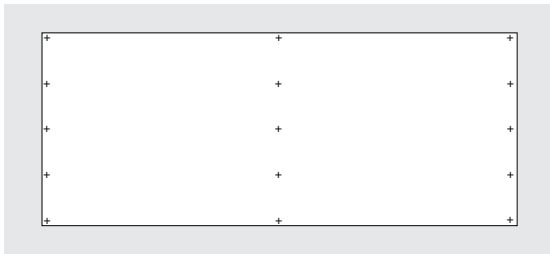

Figure 2: Fastening Pattern
3. Offset board and fasten through first layer, penetrating 1" into framing members (i.e., girts or purlins) with corrosion-resistant fasteners and poly washers. Each board should span at least three framing members. The maximum span is 5' for a 1" thick board (Contact DuPont Customer Information Group for additional thickness spannability). Fasteners should be spaced 12" on center in three rows of five fasteners per 48" board width (Figure 2).
Fasteners should be spaced 12" on center in three rows of five fasteners per 48" board width (Figure 2).
1. Offset insulation board a minimum of 6" in both directions and fasten through the first layer, penetrating 1" into framing members (i.e., girts or purlins) with corrosion-resistant fasteners and poly washers. Each board should span at least three framing members. The maximum span is 5' for a 1" thick board (Contact DuPont Customer Information Group for additional thickness spannability). Fasteners should be spaced 12" on center in three rows of five fasteners per 48" board width (Figure 2).